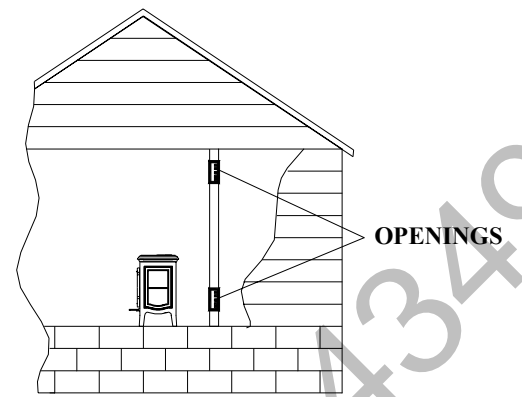

FIGURE 6
1. *Air from inside the building.* The confined space shall be provided with two permanent openings communicating directly with an additional room(s), of sufficient volume, so that the combined volume of all spaces meets the criteria for an unconfined space. The total input of all gas utilization equipment installed in the combined space shall be considered in making this determination. Each opening shall have a minimum free area of 1 square inch per 1,000 BTU/hr (22 cm² / kW) of the total input rating of all gas utilization equipment in the confined space, but not less than 100 square inches (645 cm²). One opening shall commence within 12 inches (30 cm) of the top, and one opening shall commence within 12 inches (30 cm) of the bottom, of the enclosure. The minimum dimension of air openings shall not be less than 9 square inches (8 cm) (see Figure 6).